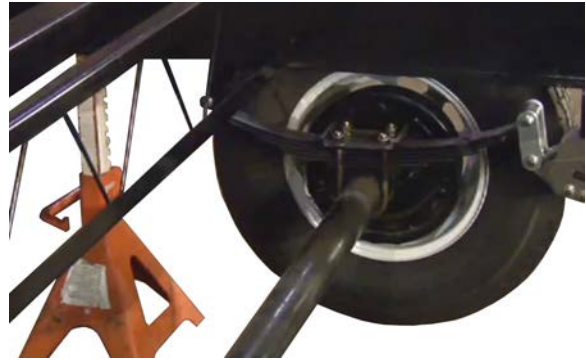

Figure 4-11 – Trailer Supported on Jack Stand
- b. Raise the trailer until the wheel can spin freely. Place a jack stand under the frame for working support (Figure 4-11).